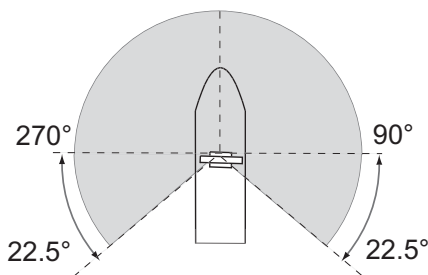

Figure 1
- Mount the antenna unit so that any blind sectors caused by objects (mast, etc.) are kept to minimum. No blind sector should exist in arc of the horizon from ahead to 22.5° aft of the beam to either side (see Figure 1 below). Also, individual blind sectors of more than 5°, or the total arc of both blind sectors of more than 20°, should not occur in the remaining arc (Figure 2). Note that any two blind sectors separated by 3° or less are regarded as one sector.